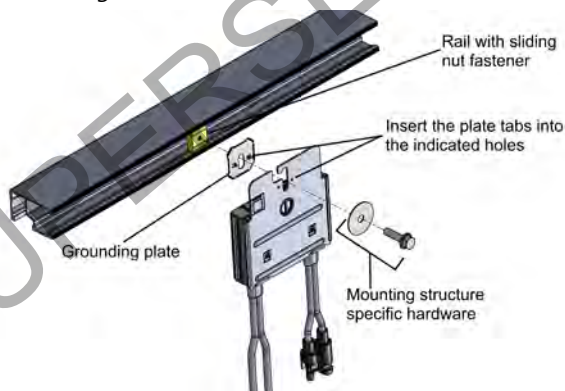

Figure 4: Power optimizer installation and grounding using a grounding plate
- **For mounting on rails with sliding nut fasteners:** If the star washer cannot be used, use the SolarEdge grounding plate (purchased separately) between the railing and the flat side of the mounting bracket. Use mounting specific hardware as needed. Apply torque of 9.5 N\*m / 7 lb\*ft. See *Figure 4*.